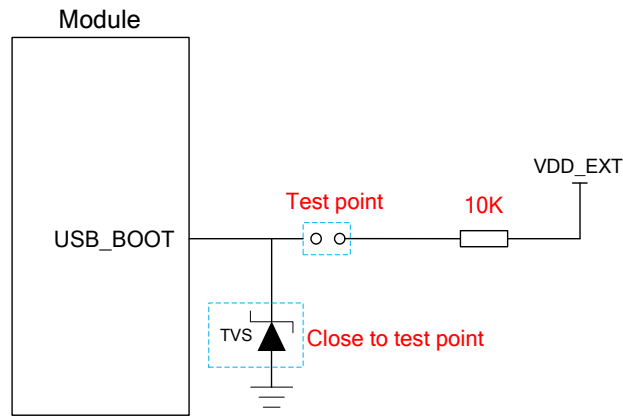

Figure 32: A Reference Design of USB_BOOT Interface
3. When using MCU to control if the module enters emergency download mode, follow the above timing. Connecting the test points as shown in **Figure 32** can manually force the module into download mode.